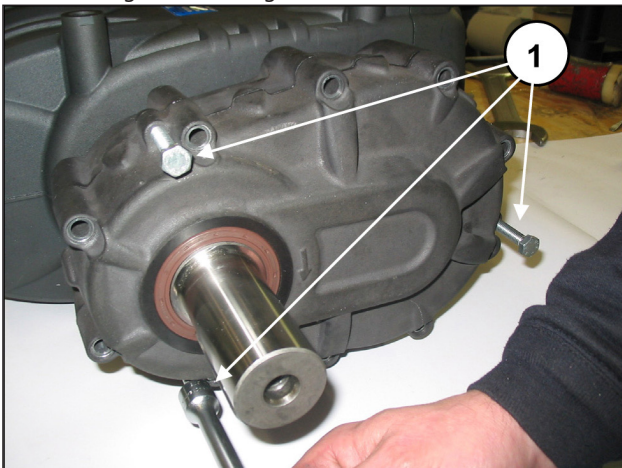
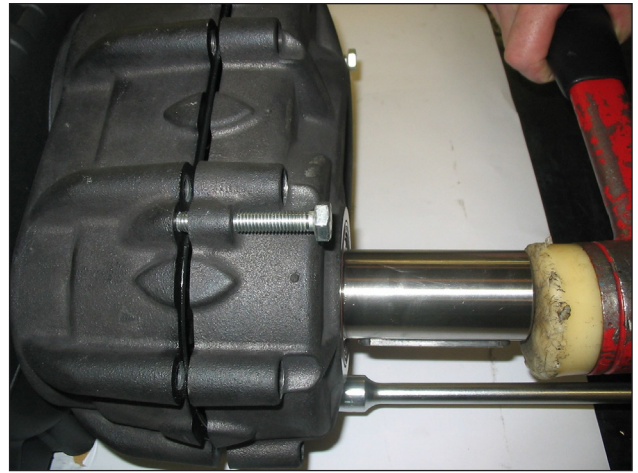

Fig. 16
Fig. 17
- Screw into the holes 3 grub screws or threaded screws of size M8 (Fig. 16, pos. ①) acting as extractors while striking on the pinion so that the bearing remains on it while removing the cover (Fig. 17).